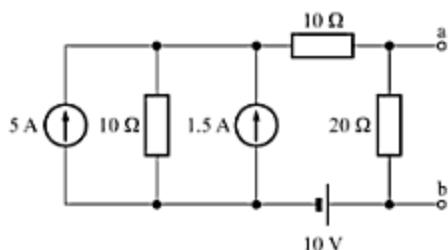

Fig. 3.75
16. Using source transformation, reduce the network shown in Fig. 3.75 to a single loop circuit and then determine current through the $20\text{-}\Omega$ resistor.